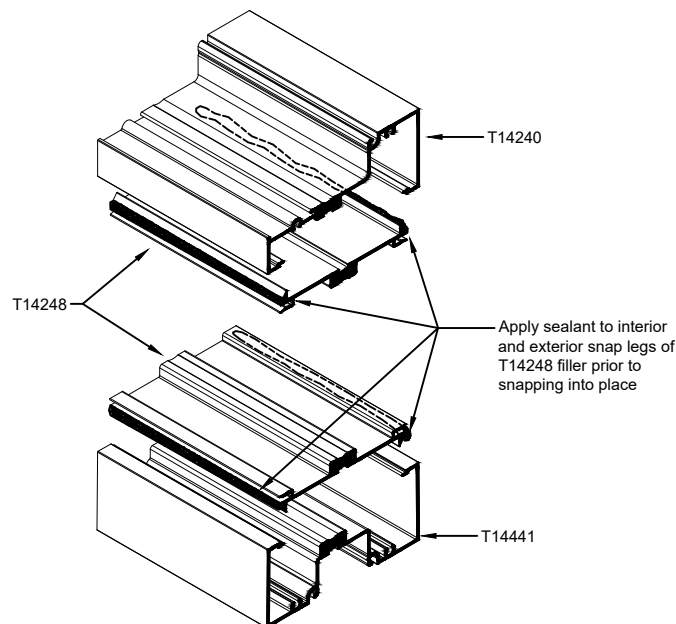

Fig.34.2
- B. Attach snap-in adaptor T14248 to the T14441 horizontal (lower member of the sidelite base). **SEE Fig. 34.2**
- D. Attach snap-in adaptor T14248 to the T14240 open back sill (upper member of the sidelite base). **SEE Fig. 34.2.**